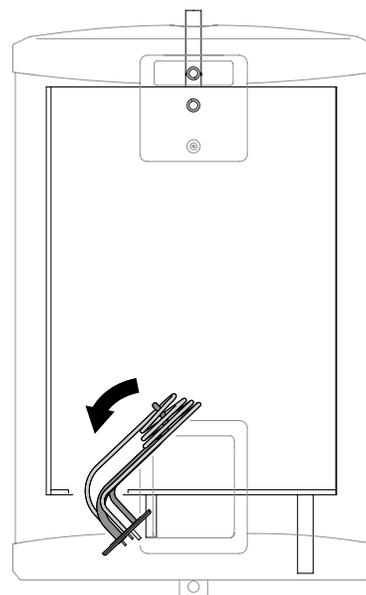

Figure 32: Immersion heater removal step 2
- ▶ Once loose, remove the immersion by twisting the immersion in an arc and then vertically pull down, see figures 32 and 33.